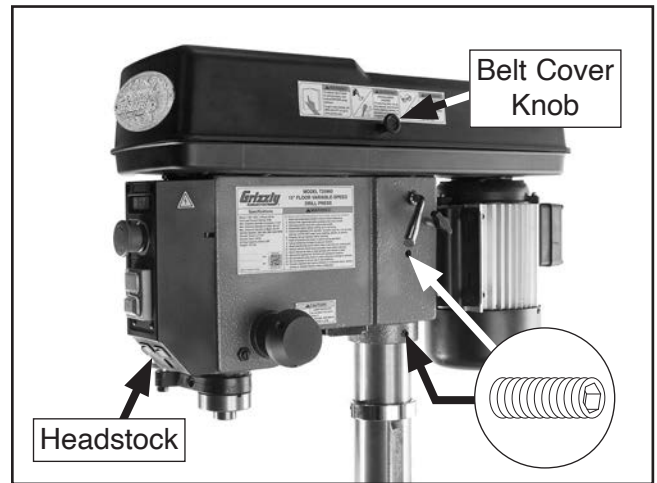

Figure 19. Belt cover knob installed and headstock placed on column (T33960 shown).
2. Remove Phillips head screw from belt cover knob, then use screw to install knob on belt cover, as shown in **Figure 19**.
3. With help, carefully lift headstock and slide it onto column (see **Figure 19**).
5. Adjust headstock on column until it is directly over center of base, as indicated by plumb bob, then secure headstock by tightening (2) set screws shown in **Figure 19**.